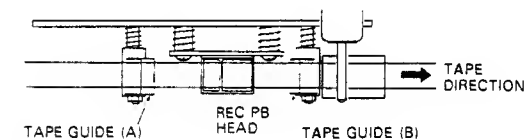

Fig. 5-2.
- Adjust the tape guide (A) so that the parts of the erase head coming out of both sides of the tape (A and A') in Fig. 5-2 will be equal. For the adjustment, use the adjustment nut (A).
- Adjust the tape guide (B) so that the tape runs smoothly and is not hitched by the tape guide. For the adjustment, use the adjustment nut (B).
- After adjustment, paint-lock the adjustment nuts (A) and (B).